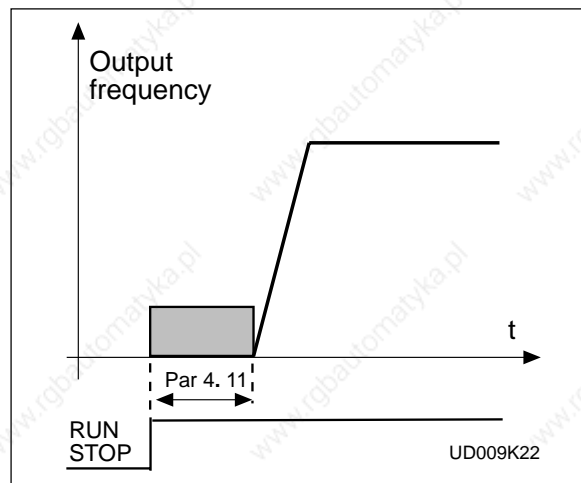

Figure 6.5-15 DC-braking time at start
**>0** DC-brake is activated when the start command is given and this parameter defines the time before the brake is released. After the brake is released output frequency increases according to the set start function parameter 4. 6 and acceleration parameters (1. 3, 4. 1 or 4. 2, 4. 3), see figure 6.5-15.